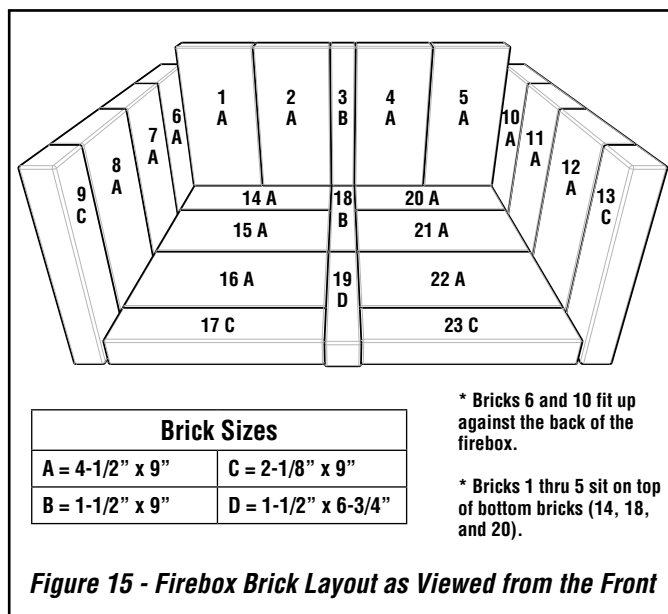

Figure 15 - Firebox Brick Layout as Viewed from the Front
1. Install bricks #1-23 as shown in **Figure 15**.